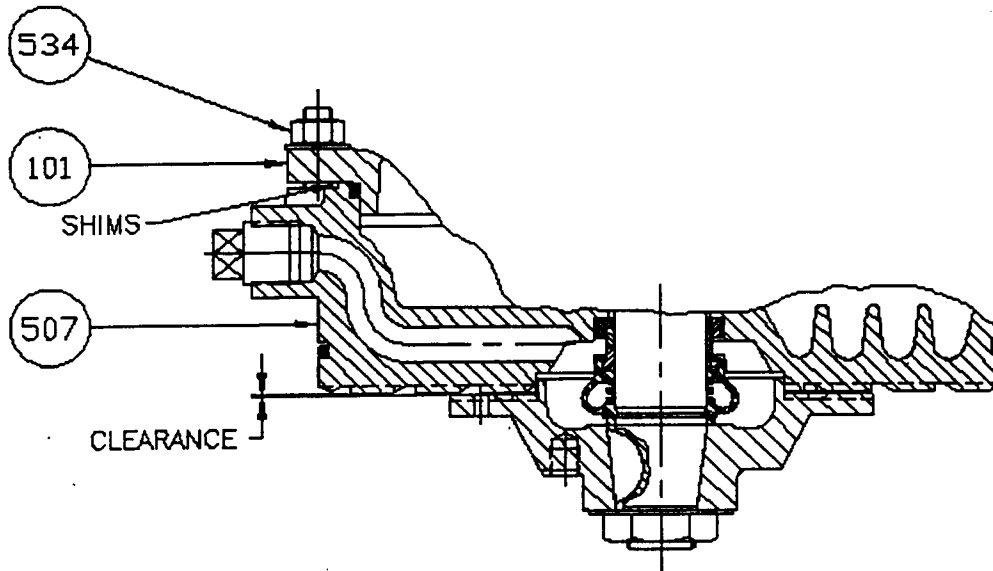

FIGURE 1
9. Install the impeller flange (165), and check the clearance between this part and the back cover (507) with a feeler gage, as shown in Figure 1. The acceptable clearance range is .030 to .040". If the clearance is excessive, add shim stock at each fastener (534) between the bearing frame (101) and the back cover (507). The thickness to be